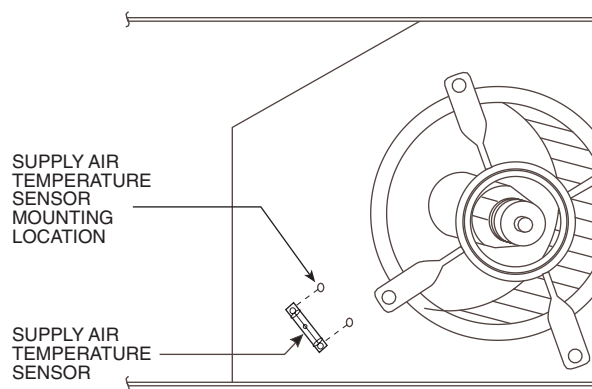

Fig. 33 — Supply Air Sensor Mounting Location
13. Mount the supply air temperature sensor to the lower left portion of the indoor blower housing with the two (2) screws provided (see Fig. 33). Connect the violet and pink wires to the corresponding connections on the supply air temperature sensor. Replace the indoor fan motor access panel.